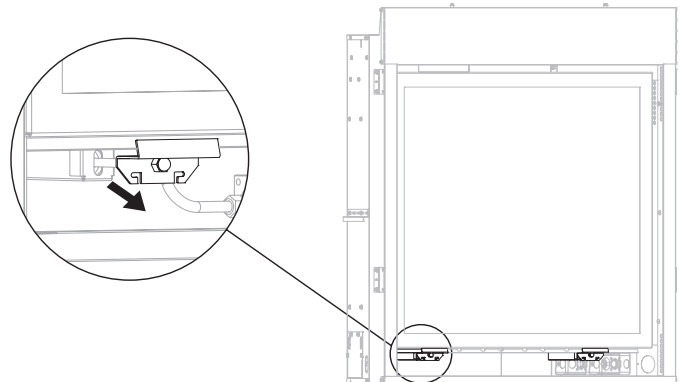

Figure 5
2. Undo two latches at bottom of firebox assembly. **See Figure 5.**
19. Reconnect the latches at the bottom of the firebox assembly. **See Figure 5.**